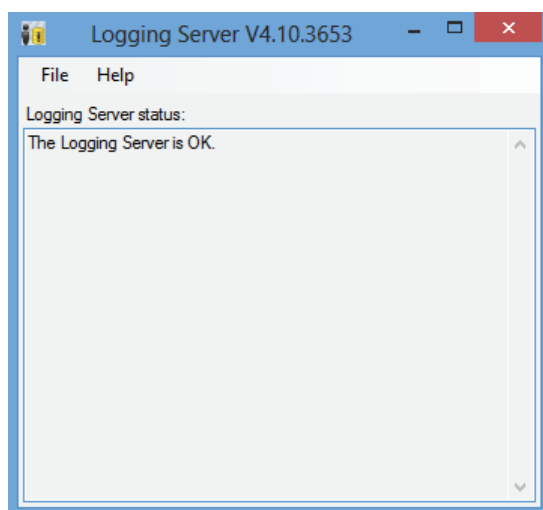

figure 58.4: Main window
- 1 Double click on the *Logging Server* icon (see figure 58.2). A screen similar to the one in figure 58.4 appears.